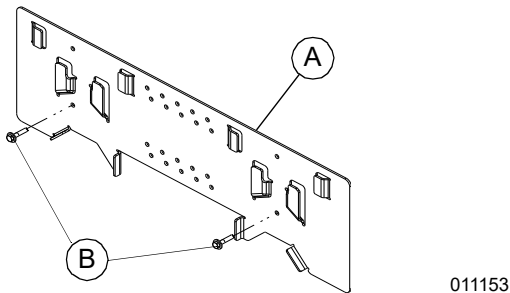

Figure 4-3. Install Foot Bracket
- See Figure 4-3. Locate structural members to mount foot bracket (A). If structural members are greater than 16 in (40.64 cm) apart, install cross brace to ensure mounting to a solid structure.
- See Figure 4-3. Install foot bracket (A) using lower holes with fasteners and washers (B) making sure bracket remains plumb and level.